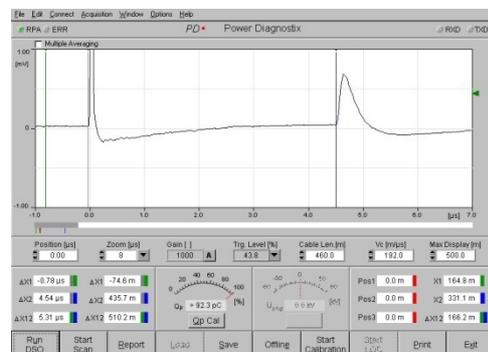

Fig. 4: TDR calibration and pulse measurement at the same cable end
**Calibration** without high voltage is necessary for the PD magnitude as well as for the reflectometry. The type of the calibrator CAL (see Data Sheet 6.33) shall be selected according to the expected PD magnitude (see also last clause of this paper!). The TDR calibration can be made in two directions: If the PD signal velocity is known from measurement at cables of identical type, the exact length of the cable can be determined. Fig. 4 shows the calibration pulse and its reflection. The measured time difference of 4.54  $\mu\text{s}$  is related to twice the length of the cable. Based on a signal speed of 192 m/ $\mu\text{s}$  in the cable the resulting cable length is  $\Delta x_2=435.7$  m. If the exact cable length is known, the TDR calibration results in the determination of the signal speed. For cable systems, TDR calibration can be used to locate also cable joints.